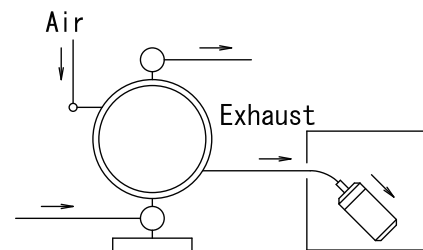

Fig.3.2
- \*Exhaust should be directed outside, not into the fluid in which the pump is submerged. For information on how to arrange the exhaust, see Note: Arranging outside exhaust and Fig.3.2 below.